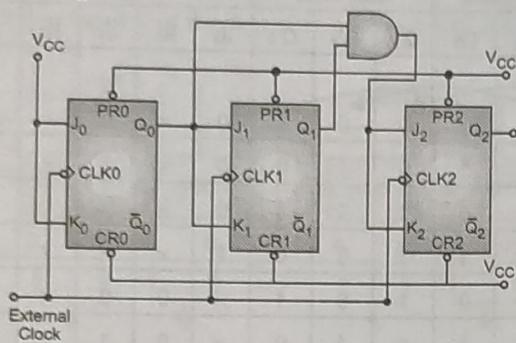

Fig. 3.76 : 3-Bit synchronous up counter
- Based on above expressions, the resulting circuit diagram is drawn in Fig. 3.76.